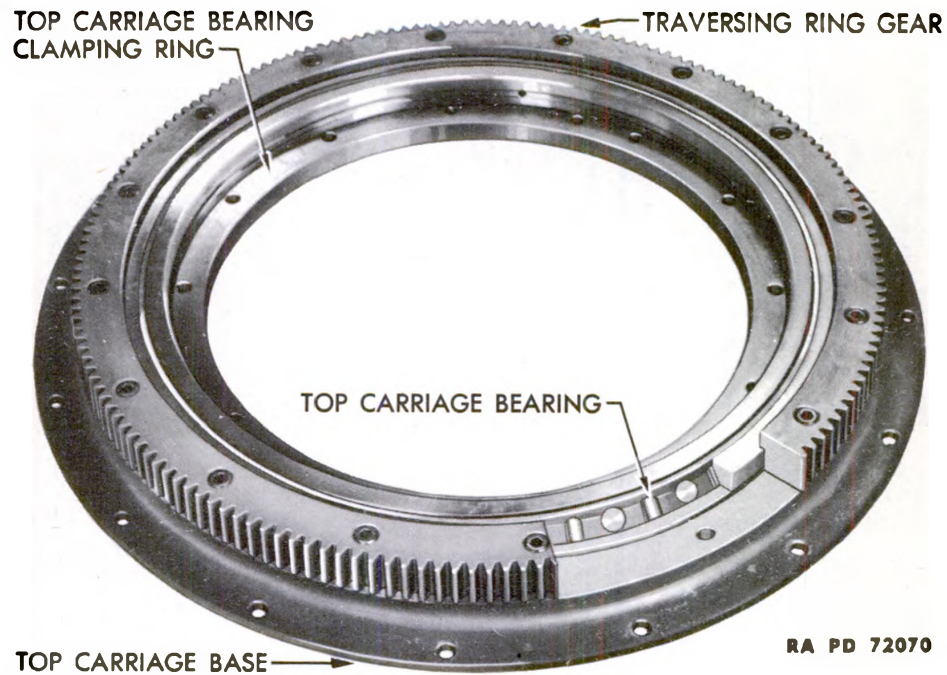

Figure 54 – Top Carriage Roller Bearing
(1) The top carriage rotates on a large ball or roller bearing (fig. 54) mounted within the traversing ring gear. The upper race of the ball bearing (or the inner race of the roller bearing), which carries the top carriage, is clamped by the bearing clamping ring to the frame base of the top carriage. The lower race of the ball bearing (or the outer race of the roller bearing) is held in the traversing ring gear which is attached to the flat, circular center chassis frame base by the stationary top carriage base.
(2) The top carriage is rotated in azimuth by the traversing mechanism pinion, which is mounted on the top carriage, being rolled around the circumference of the stationary traversing ring gear.